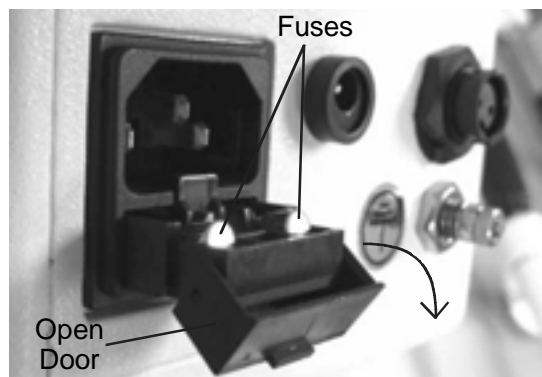

Figure 38 Open Fuse Door
3. Open the Door to the Fuse Holder by pulling it down. Refer to Figure 38.